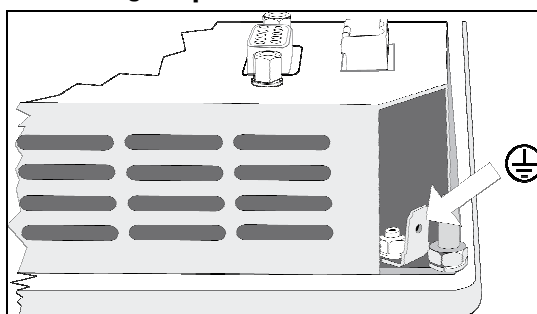

Fig. 17: PE
1. **Connect protective earth:** Connect the tab of the protective earth connection (Fig. 17) to the protective earth.